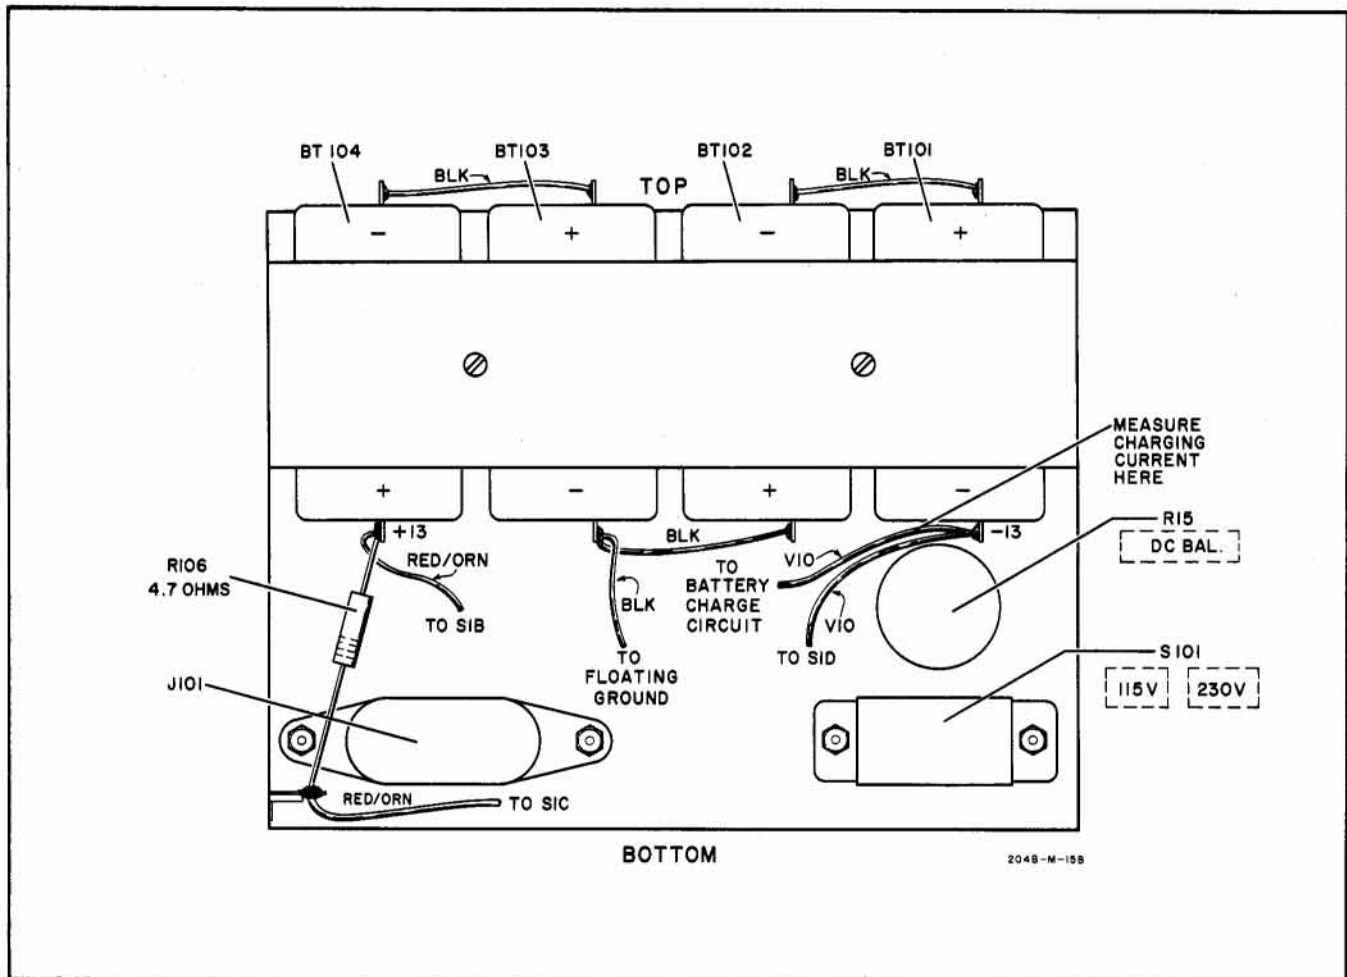

Figure 5-9. Rear Internal View of Rechargeable
- f. Unsolder resistor R106 (4.7 ohms), red/orange black, and violet wires from batteries (see figure 5-9).
- i. Place four new batteries in instrument observing battery polarity as indicated in figure 5-9.
k. Solder R106, red/orange, black, and violet wires to batteries. (See figure 5-9.)
p. Check voltage and polarity between floating ground and bottom terminals on batteries BT101 and BT104. (See figure 5-9.) Terminal on BT101 (violet wires) must be negative and terminal on BT104 (red/orange wire) must be positive with respect to floating ground (black wire on bottom terminals of BT102 and